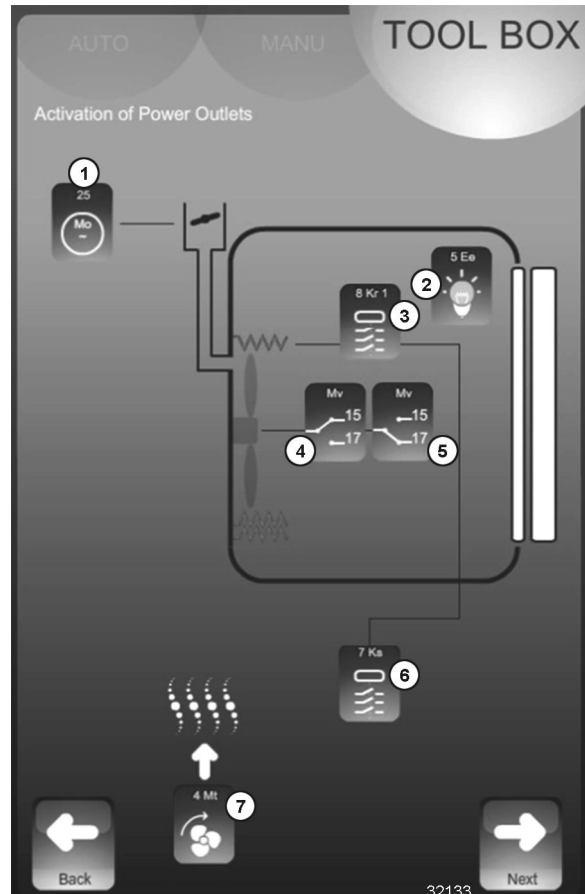

Fig. 112
3. The **Activation of Power Outlets** screen (Fig. 112) provides the following indications / controls:
- **Mo** (1, Fig. 112) - Vent motor (controlled by output control assembly relay board output 25).
- **Ee** (2, Fig. 112) Cavity lamp (controlled by output control assembly relay board output 5).
- **Kr1** (3, Fig. 112) - Heater contactor (controlled by output control assembly relay board output 8).
- **Mv15** (4, Fig. 112) - Blower motor (Mt1) clockwise rotation (controlled by output control assembly relay board output 15).
- **Mv17** (5, Fig. 112) - Blower motor (Mt1) counterclockwise rotation (controlled by output control assembly relay board output 17).
- **Ks** (6, Fig. 112) - Safety contactor (controlled by output control assembly relay board output 7).
- **Mt** (7, Fig. 112) - Axial fan (Mt2) (controlled by output control assembly relay board output 4).